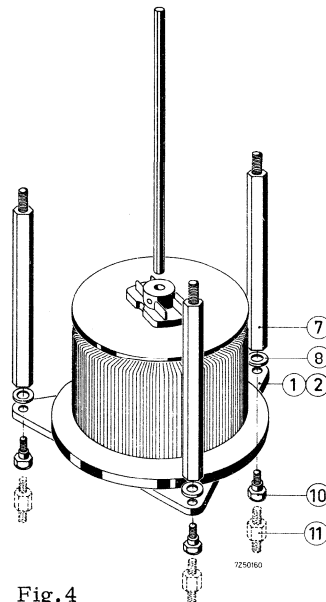

Fig. 4
3. Mount the distance rods as shown in Fig.4.
6. If ganging three transformers, mount the second transformer with distance rods as shown in Fig. 4.